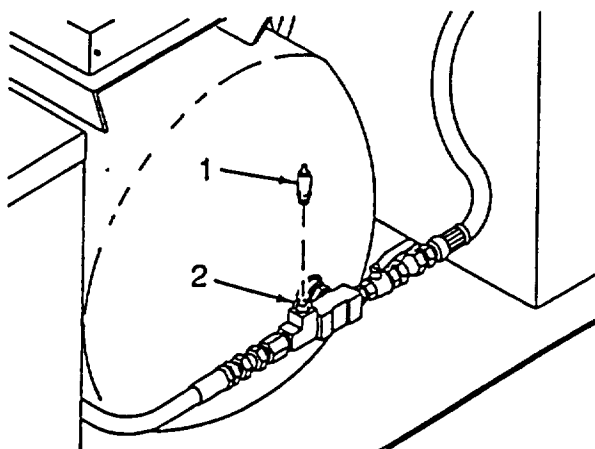

Figure 4-27. Pressure Relief Valve
a. Removal. (Refer to Figure 4-27).